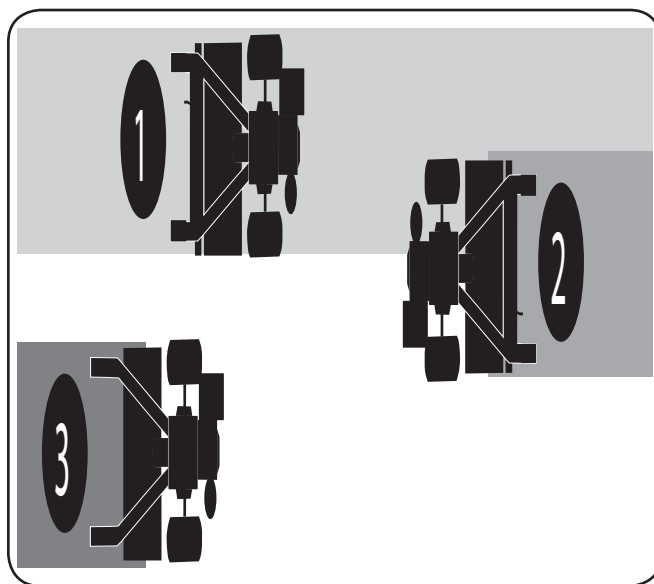

Figure 5-13
- If the garden size will not permit lengthwise and then crosswise tilling, then overlap the first passes by $\frac{1}{2}$ a tiller width, followed by successive passes at $\frac{1}{4}$ width. See Figure 5-13.